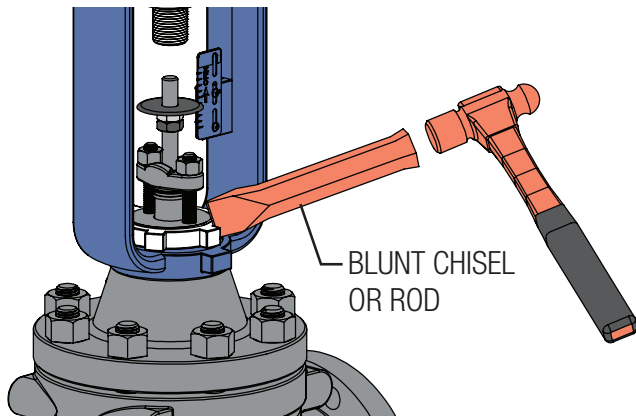

Figure 5 Yoke Lock Nut Tightening (Size 113)
- 5 Secure the actuator to the valve by tightening either the yoke locknut (Key 20) or hex nuts (Key 24). Refer to Figures 5 & 7 for tightening procedures. **NOTE:** Tighten the hex nuts in an alternating criss-cross pattern until completely tight.
- 5 Use the blunted chisel and hammer to remove the yoke locknut (Key 20) or remove the nuts (Key 24) depending on the size of the DFLP actuator. Refer to Figures 5 and 6.